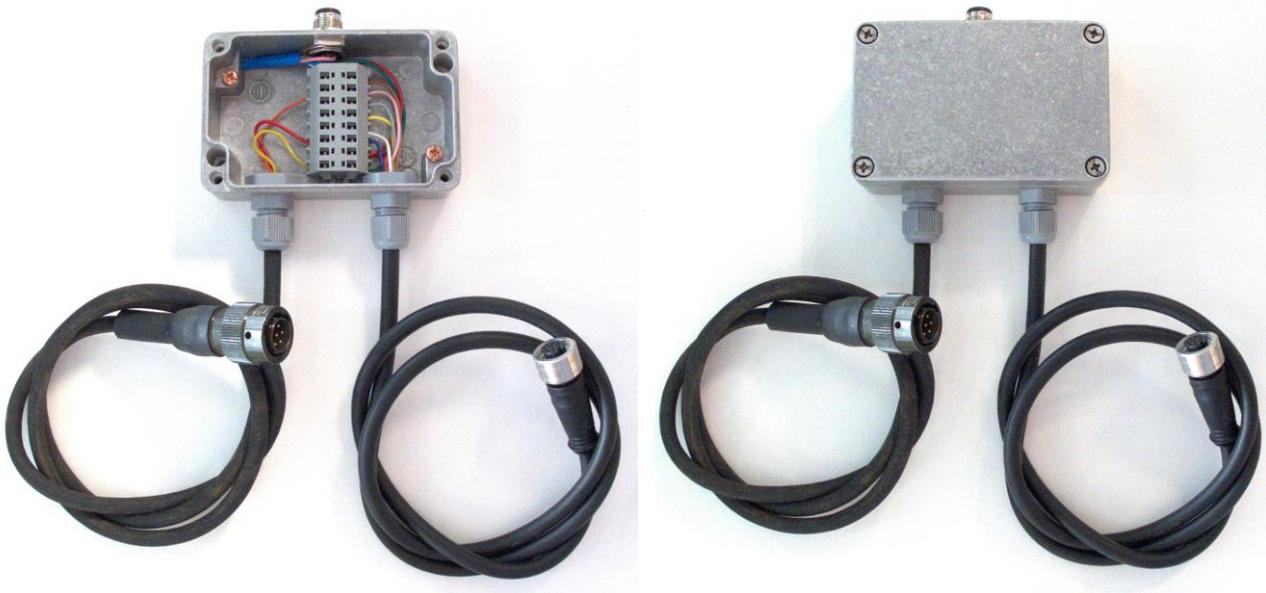

Figure 8: Flow Meter Breakout Box
2. Once the sensor head is correctly fitted remove the earth cable securing bolt as shown. Figure 8.
The flow meter inputs share an 8 way connector with the power input, a breakout box (Figure 8) is used to make the connections.
Figure 8 shows the flow meter breakout box with example connections made for an ABB Aquamaster cable. Cable colours and functions are given in Table 3.